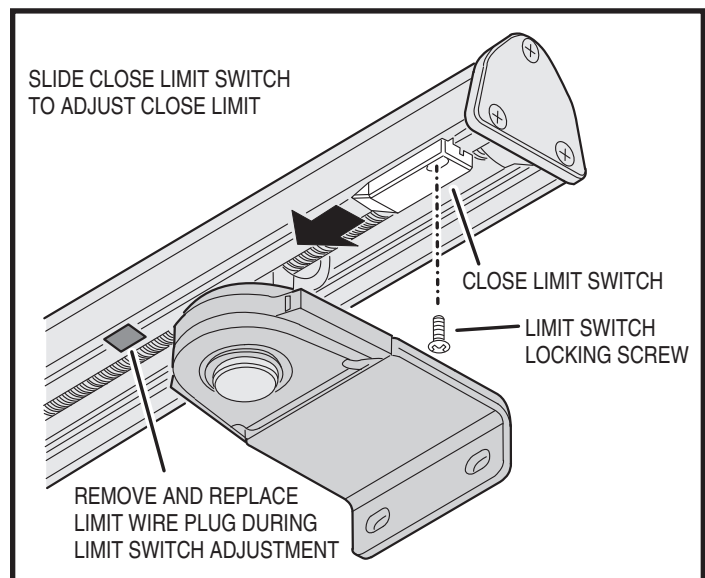

Figure 12. Close Limit Switch
4. To limit the *closing* travel of the gate for setup, loosen the locking screw on the close limit switch, remove the wire holding plugs from the wire slot in the channel, slide the switch towards the center of the operator (see Figure 12).
Be careful not to damage the limit switch wires while adjusting the limit switches. Gently pull the limit switch wire while tightening the limit switch locking screw (see Figure 12).